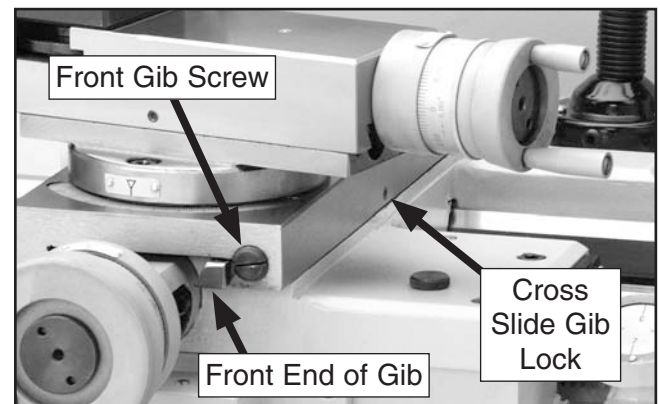

Figure 95. Cross slide gib components.
The cross-slide and compound slide on this lathe each use a long steel wedge called a gib that is positioned between the component and its dovetailed-ways. At the end of each gib is a gib screw one of which is shown in **Figure 95**. The screws at each end of the gib oppose one another to move and hold the gib in a forward or aft position. Depending which direction the gib is moved and held, the space between the sliding ways is increased or decreased to control the rigidity of the cross slide and compound slide.
Tip: *The compound and cross slide gibs have a gib lock screw that are shown in **Figures 95–96**. This screw allows the machinist to quickly tighten the locks to hold a gib and slide in a rigid position without having to tighten the gibs. When finished with the need for increased rigidity, the gibs then are quickly unloaded back to their normal state by loosening the screw.*
2. Loosen the gib lock shown in **Figure 95**.